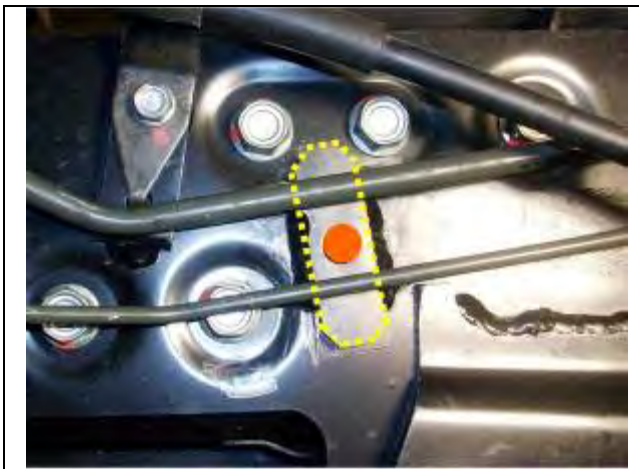

Figure 89
20. Using a 1/4" drill bit, drill a hole in the frame through the passenger side reinforcement bracket brake clip mounting hole. See Figure 89.
22. Locate the 1/4" hole drilled in Step 20. Use the 3/32" drill bit and finish drilling this location. Mark this location with tape or chalk. This hole is required to provide clearance for the passenger side brake pipe clip. See Figure 89.